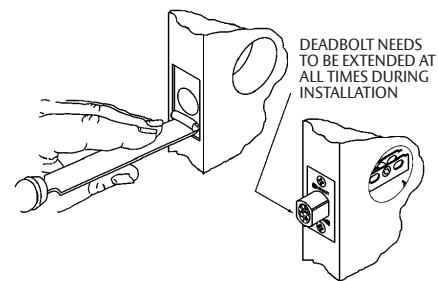

Figure 3
- Insert deadbolt with bolt extended and fasten with two deadbolt screws (#8-32 x 3/4"). (See Figure 3).